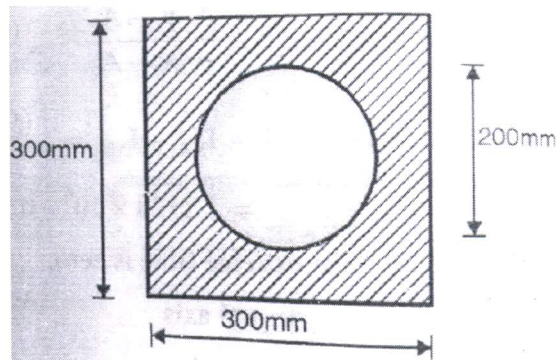

Fig.7
- c) A steel section is a square plate (300 mm x 300 mm) with circular hole (200 mm diameter) at its center as shown in fig.7 is subjected to a shear force of 200 kN. Draw shear stress distribution diagram. Also find the range of maximum shear stress to avg. shear stress. [8]